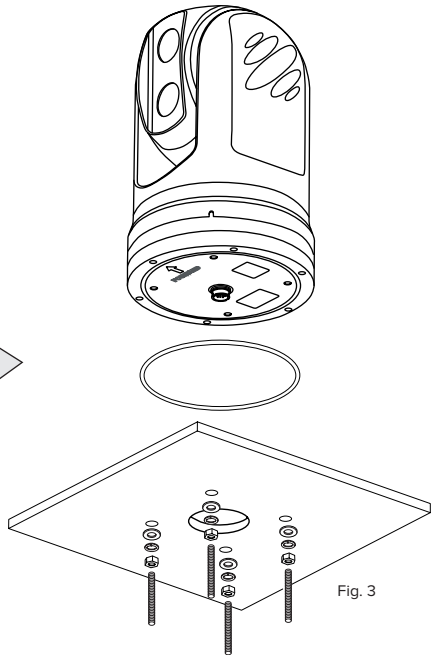

Fig. 3
3. Place your Camera Turret base over the screw holes and secure your Camera Turret with the four M6 studs, washers, spring washers, and nuts provided. Note that the thread holes at the turret base have a maximum depth of 0.5in (13mm). We recommend a length of between 0.3-0.4in (8-10mm) with a thread pitch of 1.0. At no time should the studs penetrate more than 0.5in (13mm) from the base (Fig. 3).